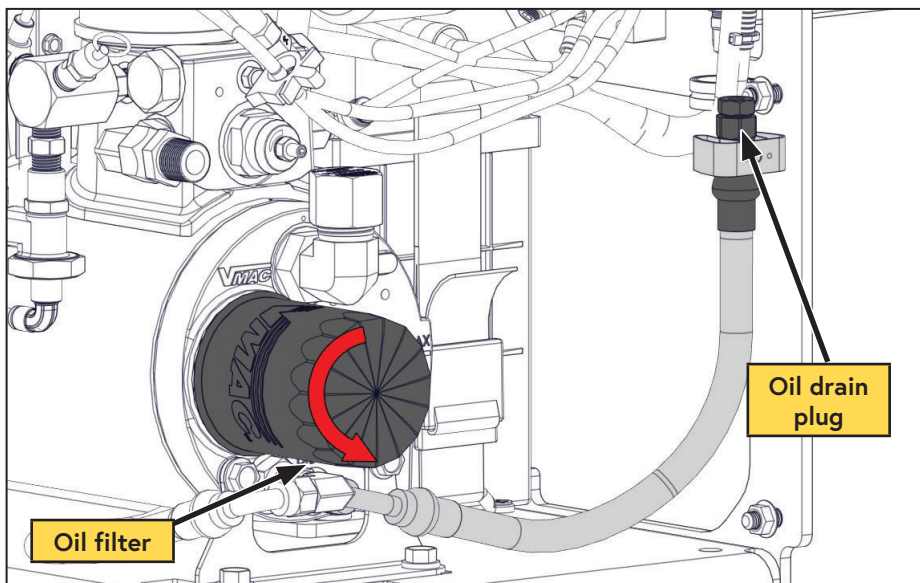

Figure 31 — Compressor oil filter
- ☐ Remove the oil drain extension from its holder on the frame and drain the oil into a container with a capacity of at least 4 L (1 USG) (Figure 31).
- ☐ Remove the oil filter (Figure 31).